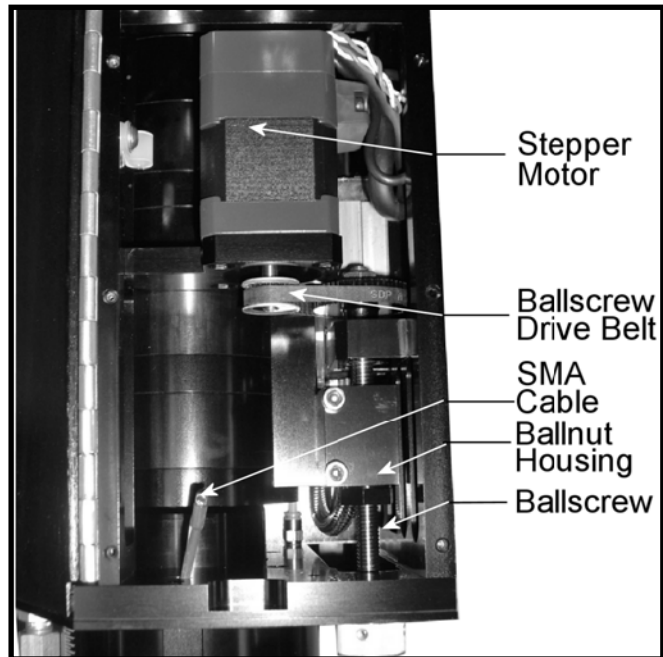

FIGURE 9-8 Auto Focus Drive Mechanism
1. Remove cover by removing the screws on the side cover (see Figure 9-8).
5. Apply (4) drops of Mobil Vactra #4 oil (C.I.P.N. 913071) or equivalent (ISO viscosity grade 220) directly into the top of the ballnut. Also add one drop to the ballscrew shaft on either side of the ballscrew.
6. Inspect supports bearings for lubrication. If dry apply (2) drops of oil (same type as step 6)